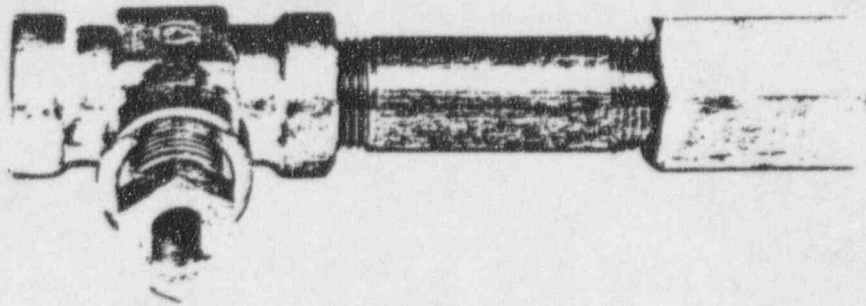

FIGURE 1-9. MODEL 911-TF IN-LINE TEMPERATURE SENSOR MOUNT
1.2.7 Model 911-TF In-Line Temperature Sensor Mount (Figure 1-9)